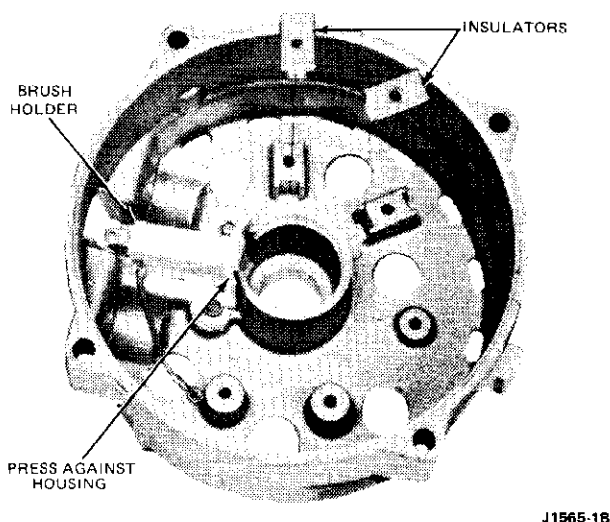

FIG. 8 Brush Holder and Rectifier Insulators Installed
8. Place the two (rectifier) insulators on the bosses inside the housing (Fig. 8).
2. Place the two rectifier insulators on the bosses inside the housing (Fig. 8).